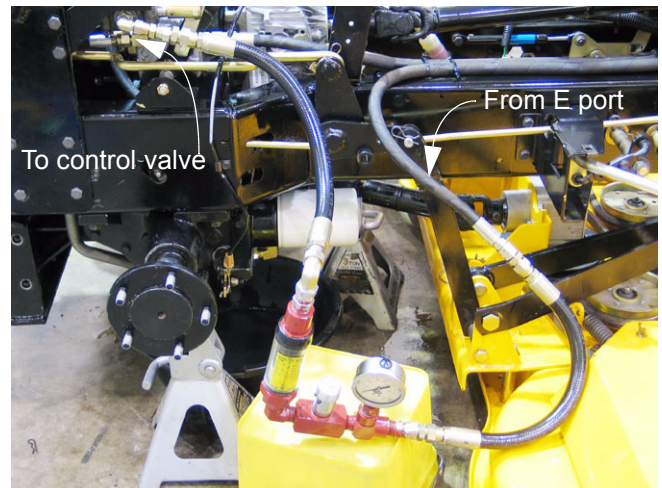

Figure 8.10
- Install the test kit with the flexible line connected to the pressure gauge end of the kit, and the control valve connected to the flow meter end of the kit. See Figure 8.10.